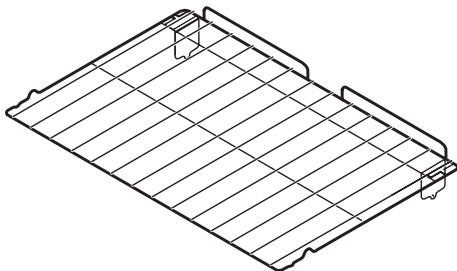

Figure 4
- **Effortless™ oven rack** (Figure 4).
5. While holding the connector arm in place, twist the connector arm so the ends of the connector arm point upwards (See Figures 4 & 5). The connector arm should now be locked into position.